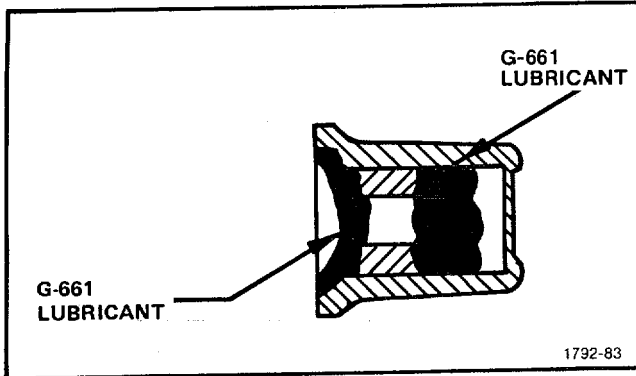

Figure 5-30. Lubrication of POSITION control knob.
27. Installation of the POSITION knob and the FINE POSITION knob (see Figs. 5-30 and 5-31)
1. Apply G-661 lubricant to the POSITION knob as shown in Fig. 5-30.